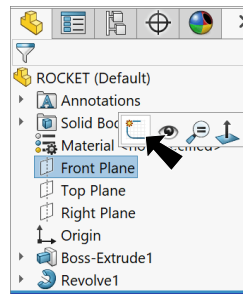

Fig. 17
Step 1. Click **Front Plane**  in the Feature Manager and click **Sketch**  on the context toolbar, **Fig. 17**.